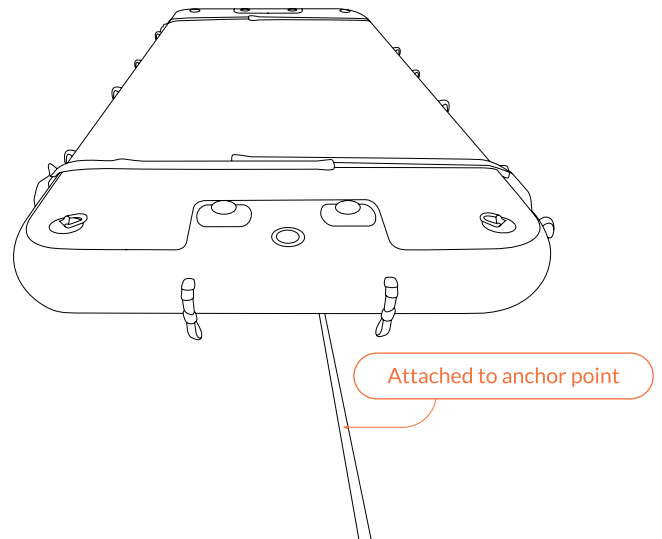

Fig 57 - Tow line attached to anchor point on underside of Platform
Step 6: Attach the Towline to the Product (Fig 57)